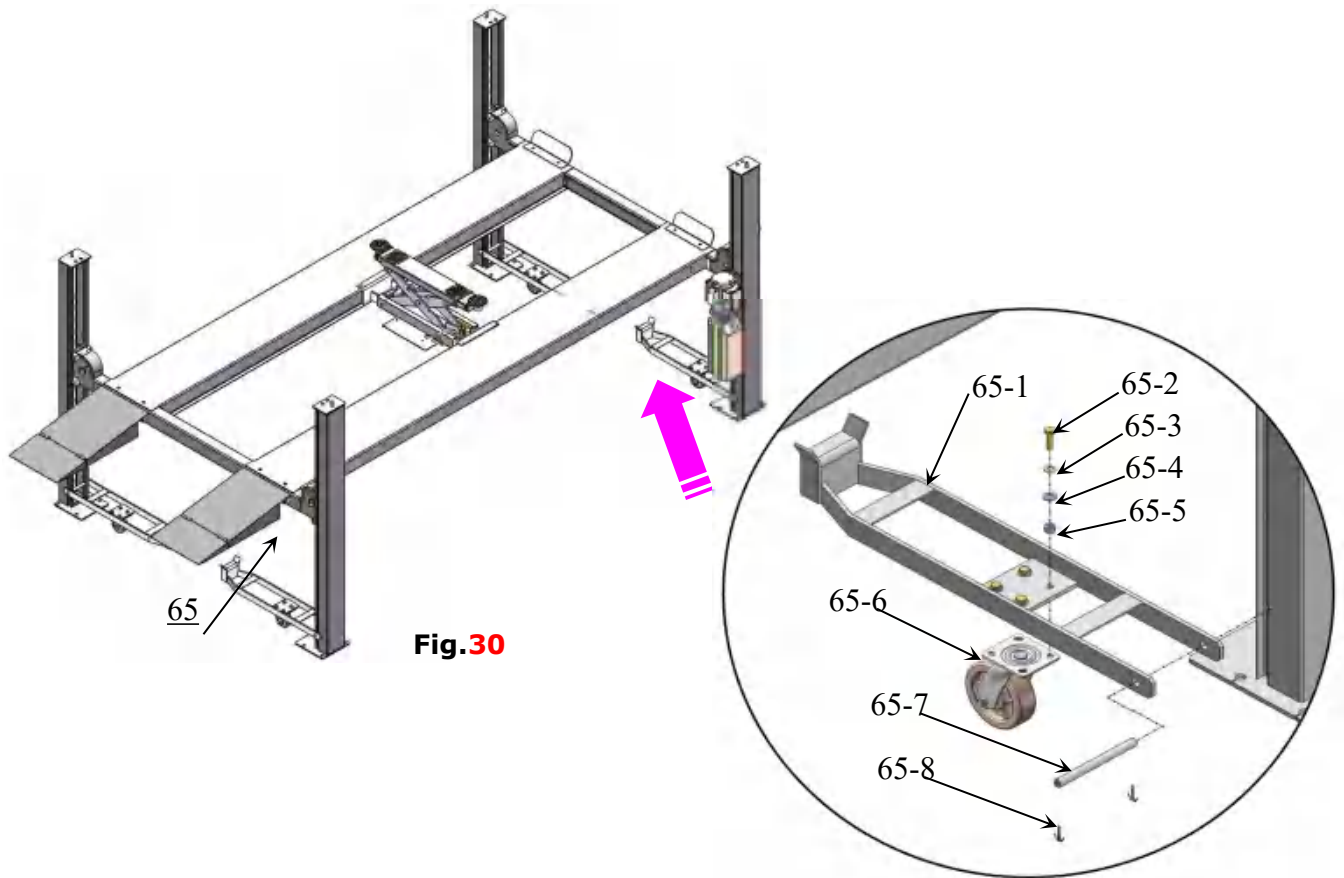

Fig.30
1. Install optional caster kits (See Fig. 30)